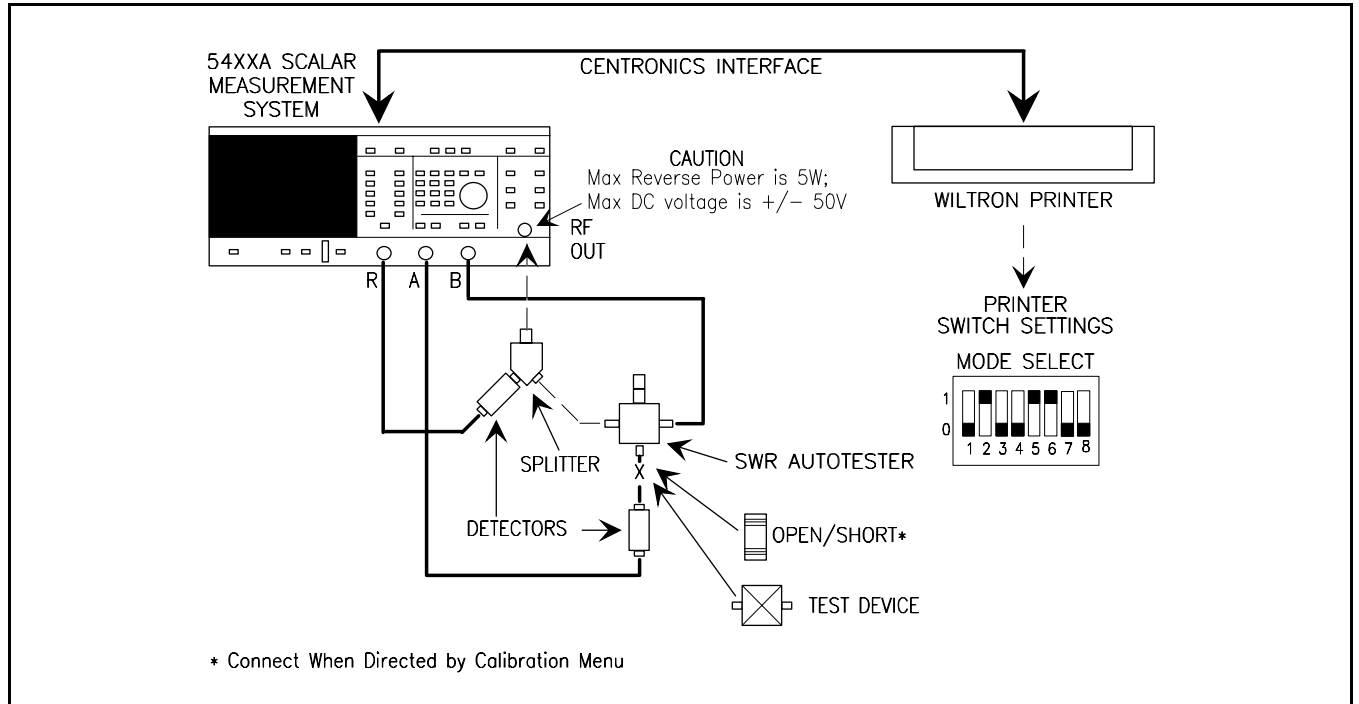

Figure 4-3. Typical Equipment Setup for Ratio Mode Measurements
1. Connect test equipment per Figure 4-3, except do not connect the test device. Turn the printer on.